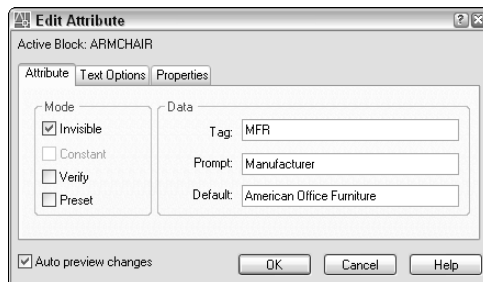

Figure 18-35: The Edit Attribute dialog box.
- ♦ **Edit the attributes, including prompt, default, text display, and properties.** Click Edit to open the Edit Attribute dialog box, as shown in Figure 18-35.